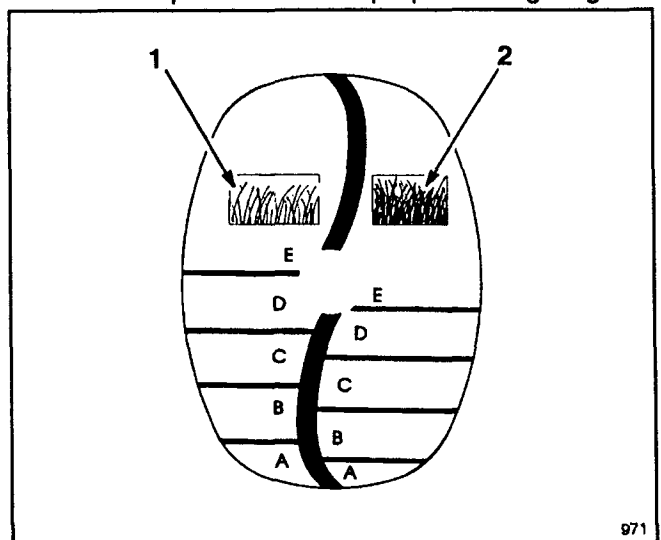

Figure 17
1. Before starting the engine and beginning to mow, push the mower into the grass. Stop when the letters on the SmartWheel design on the rear left wheel are upright (Fig. 17).
2. Using the coded SmartWheel design (Fig. 17), compare the tips of the grass blades to the letters on the wheel. Whichever letter the tips of the grass blades correspond with is the proper cutting height.